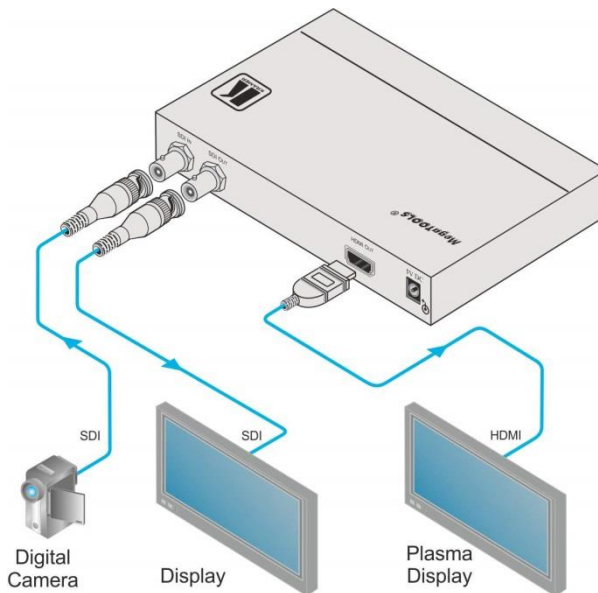

Figure 2: Connecting the VP-472 SDI to HDMI Scaler
To connect the **VP-472** as illustrated in the example in Figure 2:
4. Connect the 5V DC power adapter to the power socket and to the mains electricity (not shown in Figure 2).